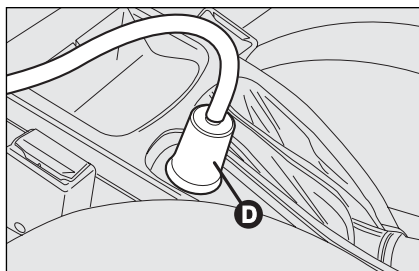
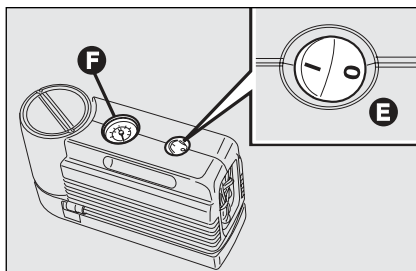

fig. 15
fig. 16
- make sure the compressor switch **E-fig. 16** is set to **0** (off), start the engine and fit plug **D-fig. 15** into the cigar lighter outlet and then turn on the compressor by setting switch **E-fig. 16** to **1** (on). Inflate the tyre to the pressure specified in paragraph “Cold tyre inflation pressure” in section “Technical Specifications”. Check tyre pressure on gauge **F-fig. 16** with compressor off to obtain precise reading;